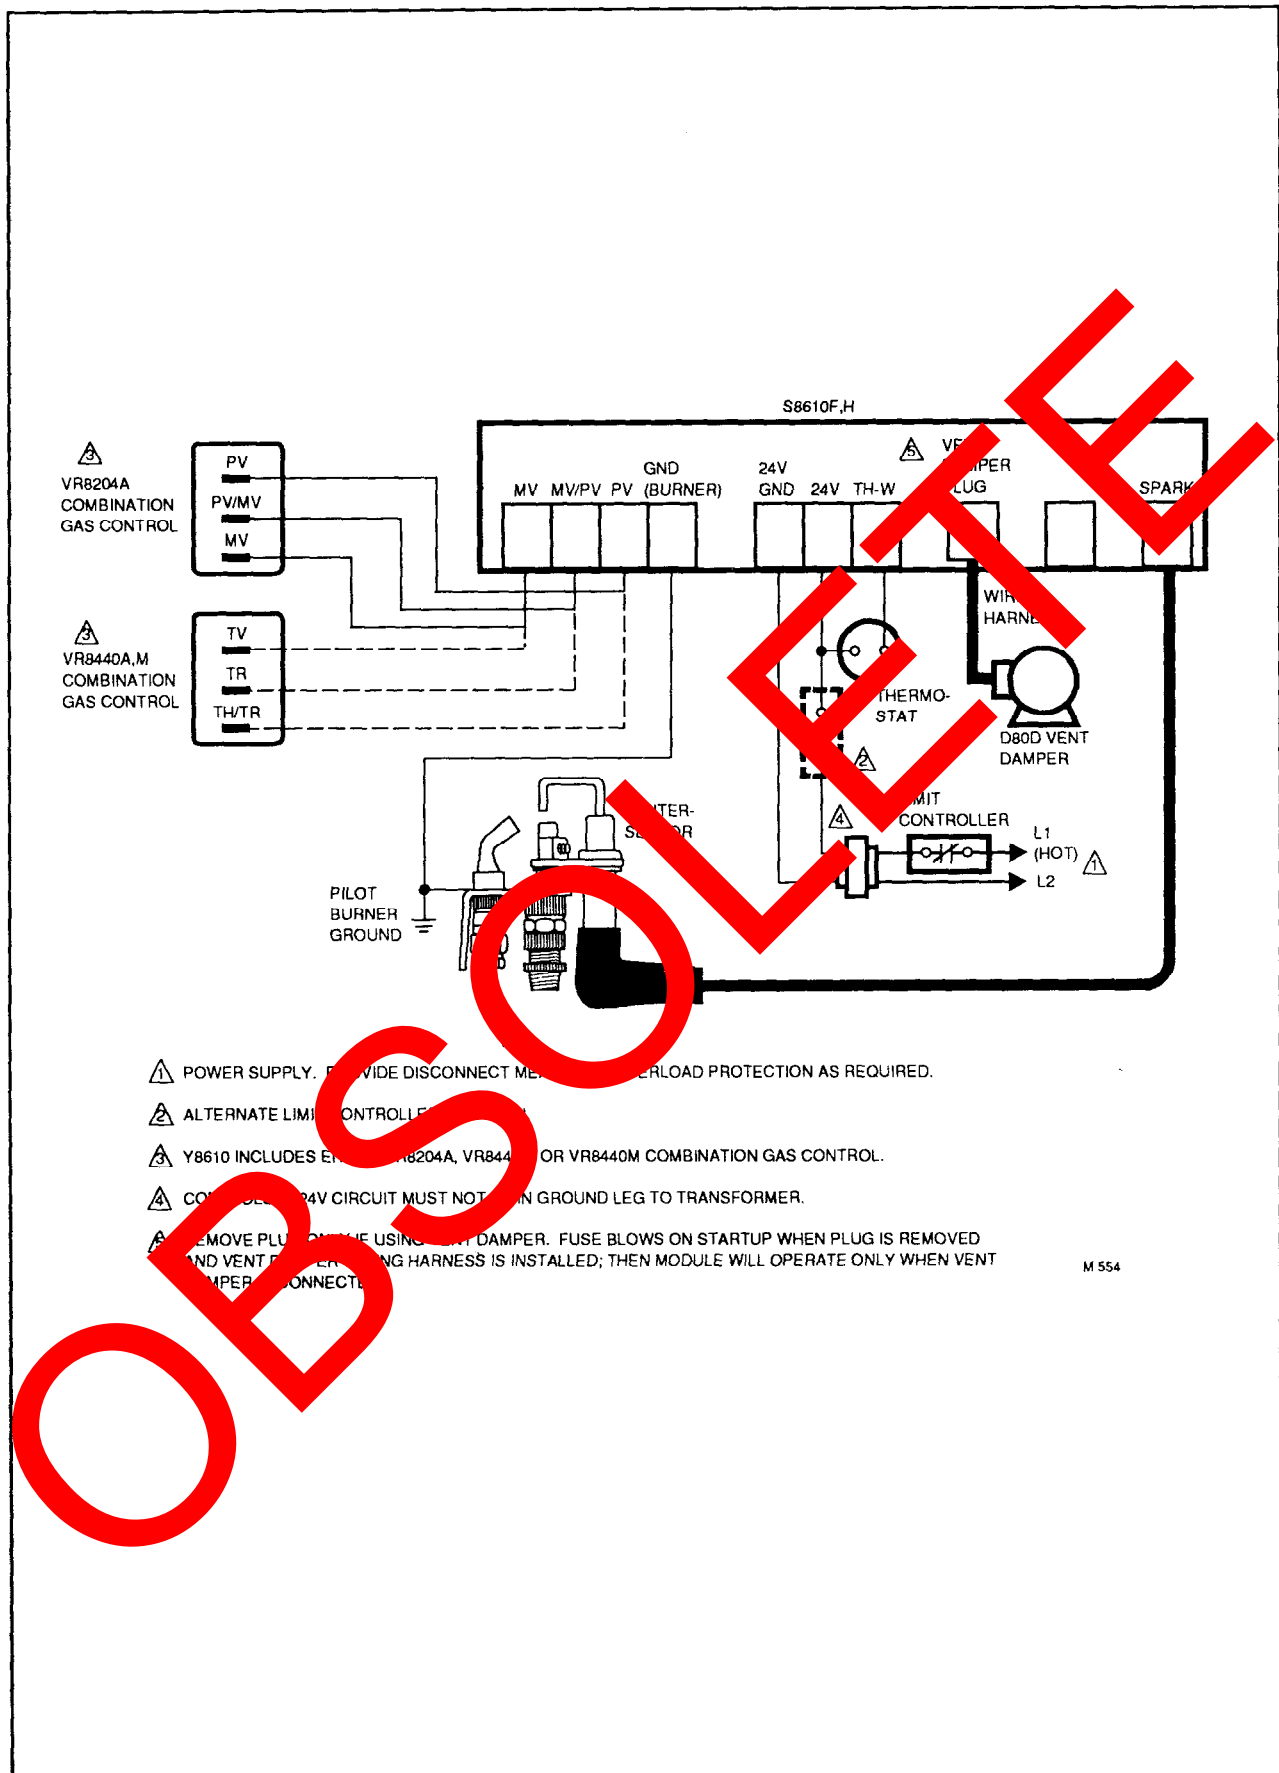

FIG. 15—Y8610 IN A TYPICAL ATMOSPHERIC BURNER HEATING SYSTEM WITH A D80D VENT DAMPER.
- Fig. 15 shows a heating only atmospheric burner system with a D80D Vent Damper.